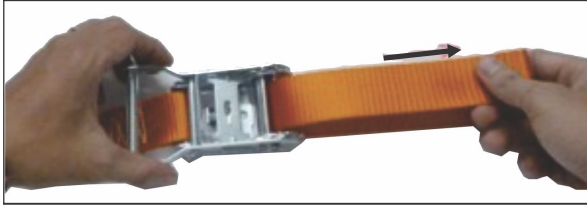

Figure 3.3
- Then, pull the strap to remove the excess slack (Figure 3.3).